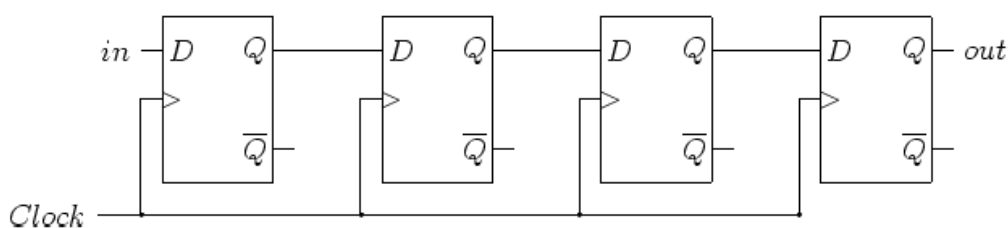

Figure 2 – 4-bit serial-in serial-out Shift Register, implemented using D flip-flops.
- ✓ as a buffer or delay for serial-in, serial-out data (see **Figure 2**); *or*